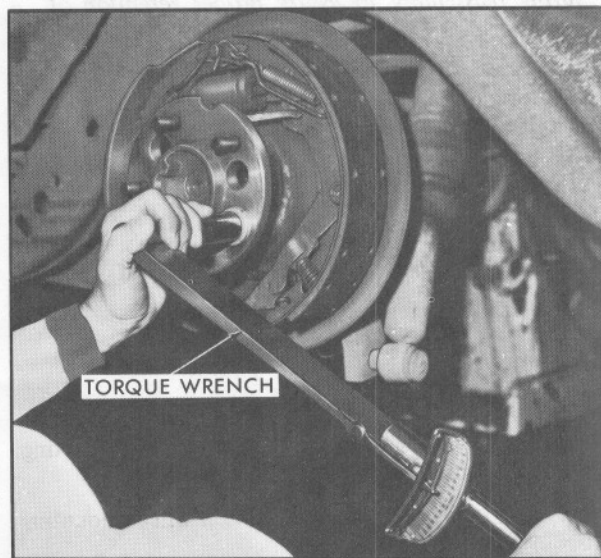

Fig. 4-2 Installing Stud (C-Car Rear)
3. Torque nut to 140 foot-pounds, Fig. 4-2.